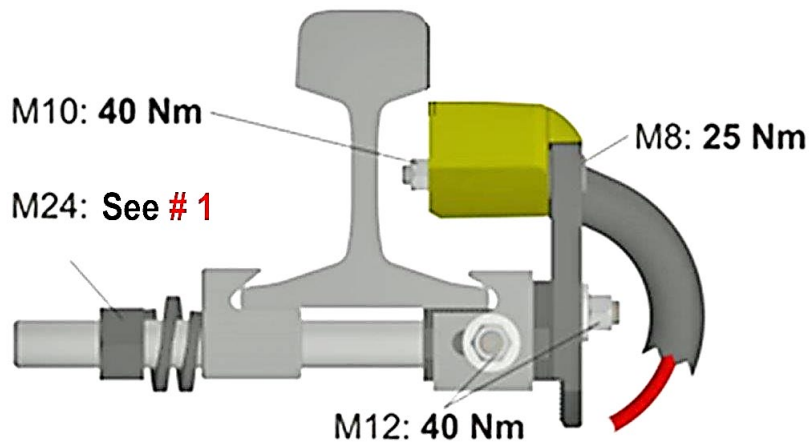

Figure 7 – Rail Claw Torque Values
- 3.3 Check the rail sensor securing nuts are tightened to correct torque values using an approved torque wrench tool see Figure 7 for details.